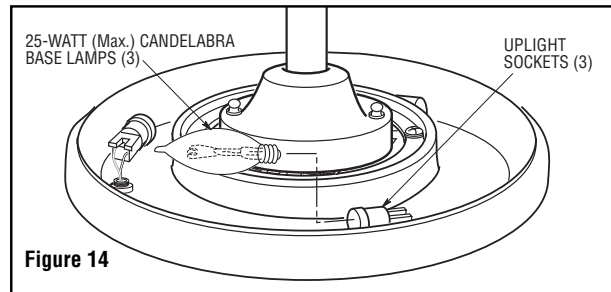

Figure 14
1. Screw three 25-watt (maximum) candelabra base lamps (supplied) into the upright sockets on top of the fan housing assembly (Figure 14).